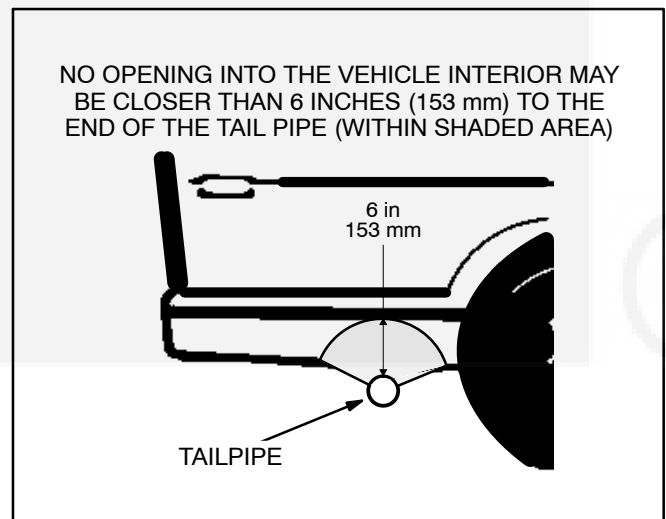
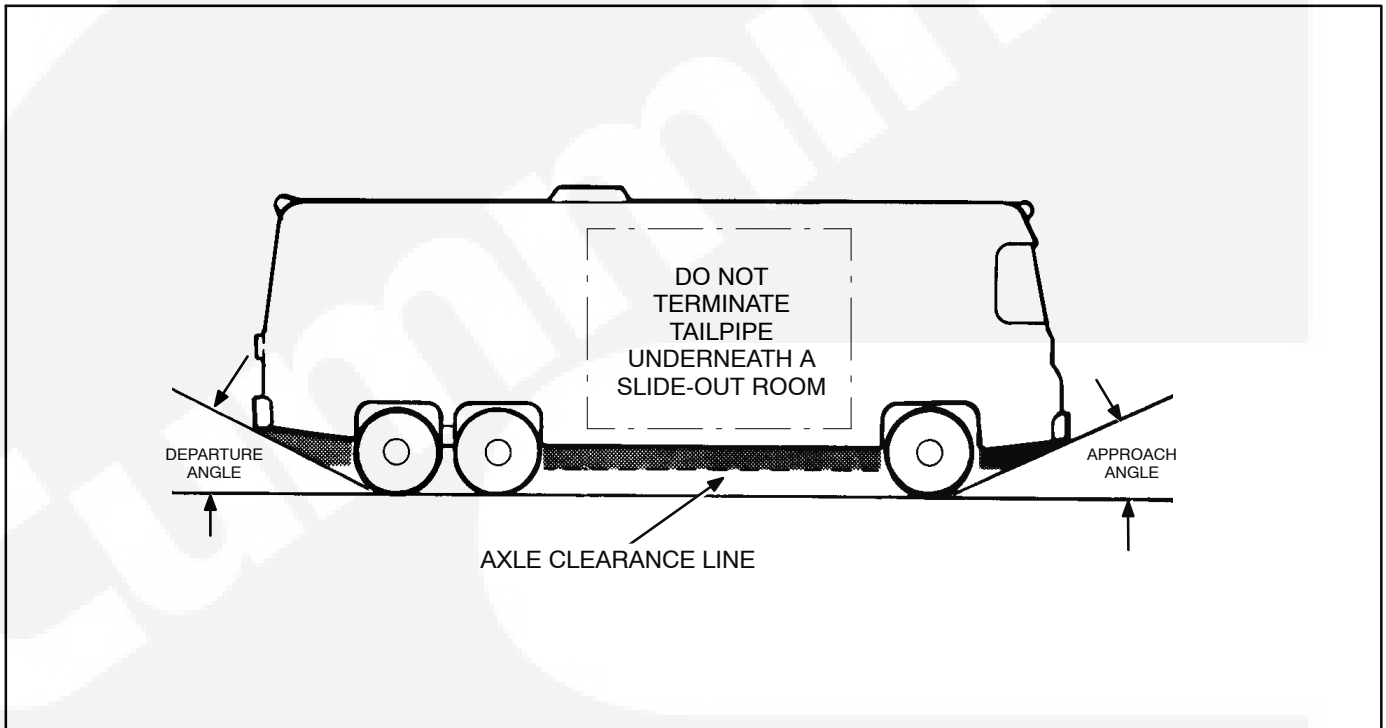

FIGURE 3-4. MINIMUM DISTANCES TO OPENINGS
FIGURE 3-5. APPROACH AND DEPARTURE ANGLES AND AXLE CLEARANCE LINE
**⚠WARNING** *EXHAUST GAS IS DEADLY! To keep exhaust gases from entering the vehicle do not terminate the exhaust tailpipe underneath the vehicle or closer than specified to openings into the vehicle (Figure 3-4) or route it such that it is likely to be damaged (Figure 3-5). Use approved materials and parts only.*
**Note: Do not terminate the tailpipe underneath a slide-out room (Figure 3-5), unless the bottom of the slide-out, including skirts and moldings, is at least 3 feet above the end of the tailpipe.**
9. Do not terminate the tailpipe such that it is closer than 6 inches (153 mm) to any opening into the vehicle interior (door, window, vent). See Figure 3-4.
10. Route the tailpipe such that it will not likely be struck when the vehicle is moving. At least keep it out of the approach and departure angles of the vehicle and above the axle clearance line (Figure 3-5).
12. Exhaust back pressure under full load must not exceed 2 inches (51 mm) water column (WC) as measured within 6 inches (154 mm) of the muffler outlet flange.